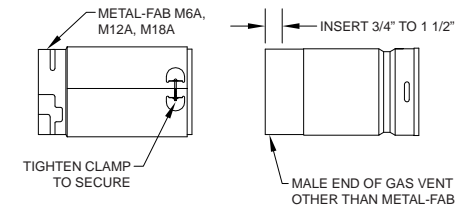
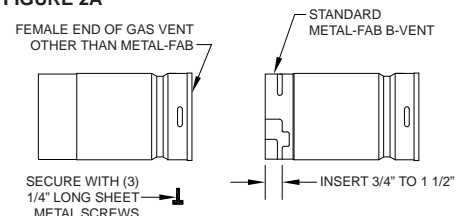

FIGURE 2A
FIGURE 2B
6. If a UL Listed gas vent other than Metal-Fab is to be connected to the inlet end of the Metal-Fab B-Vent, use the M6A, M12A, or M18A gas vent adapter. Insert the male end of the other gas vent into the gas vent adapter and secure by tightening the clamp on the adapter (See FIGURE 2A). If Metal-Fab B-Vent is to be inserted directly into the inlet end of a UL Listed gas vent other than Metal-Fab, secure by using three (3) 1/4 inch (6.4 mm) long sheet metal screws. Do not penetrate the flue (See FIGURE 2B).